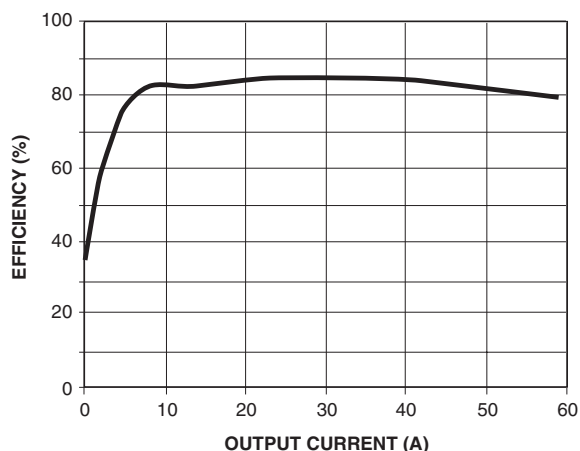

Figure 8. AC Loadline Waveform
15. You will see a waveform that looks something like Figure 8. Use the horizontal cursors to measure V_{ACDRP} and V_{DCDRP} as shown.